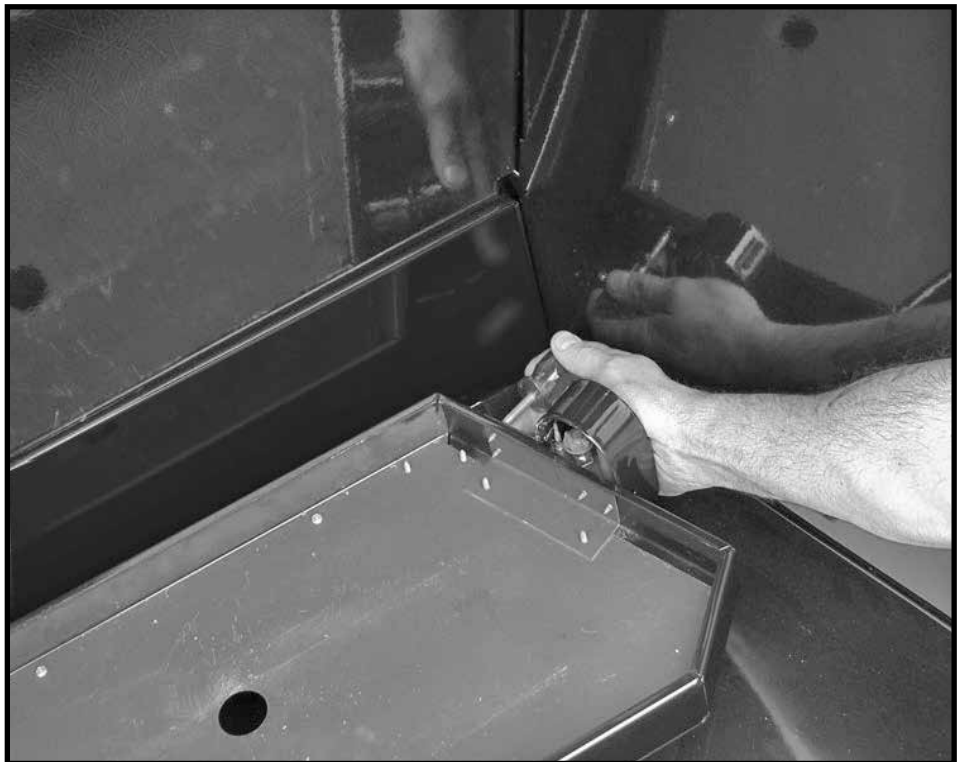

Figure 10: Installing pilot shield.
10. Attach pilot shield to burner tray with two screws. (Figure 10)